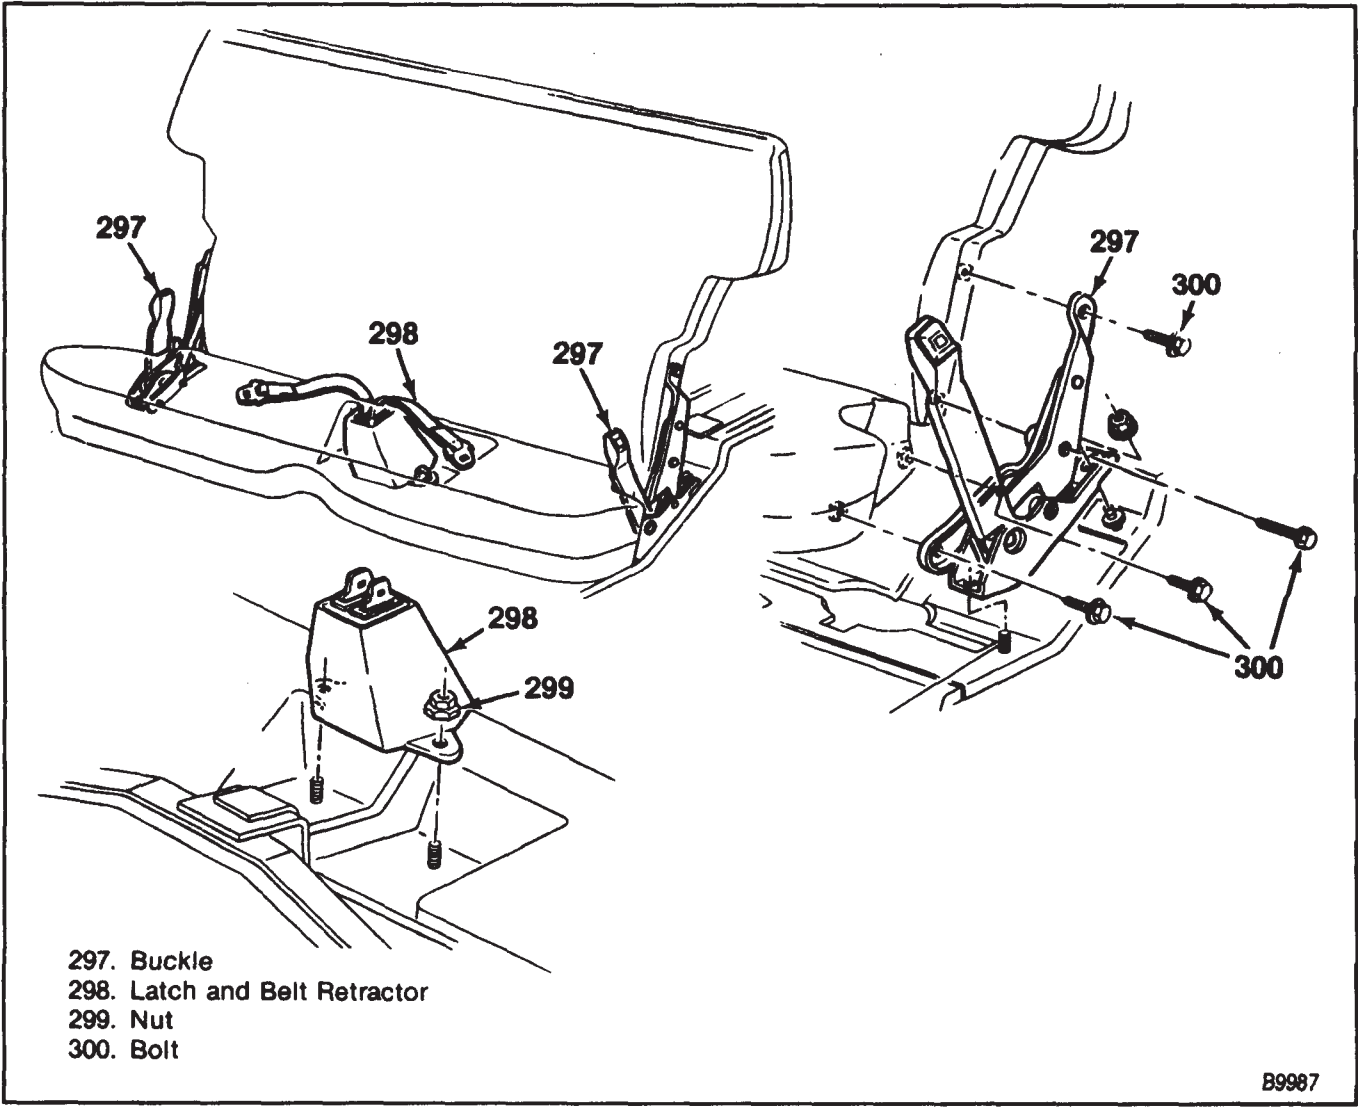

Figure 20—Rear Seat Belt Components
**Remove or Disconnect (Figure 20)**
**Install or Connect (Figure 20)**